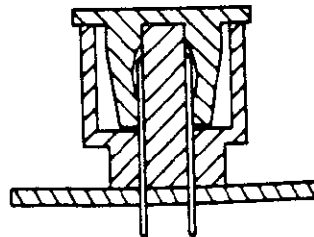

Fig. 5. Seated Connector
4.4. Seated connectors shall be bottomed on pc board as shown in Figure 5.